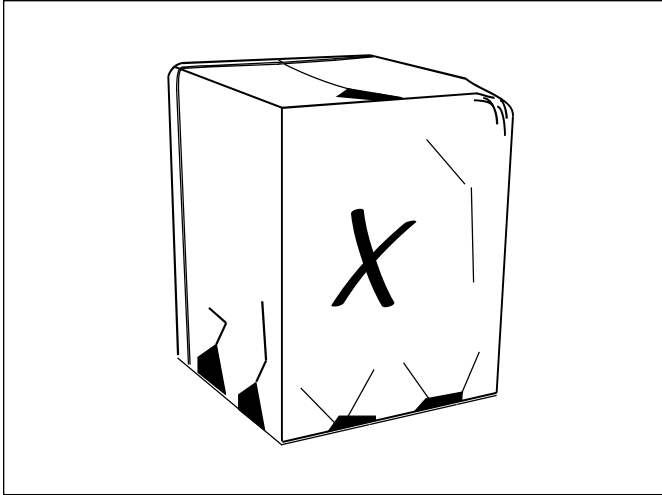

Figure 12
- Check for damage and report promptly to the carrier any damage found to the unit Figure 12.